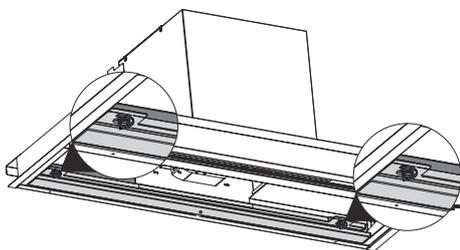

Fig. 21
3. ➤ Loosen the screws holding the water tank in the direction of the arrow (Fig. 21).